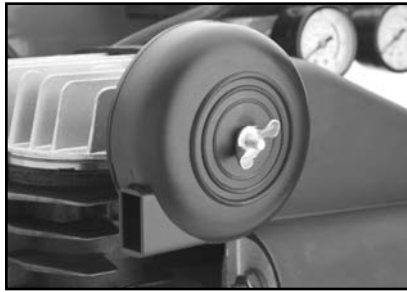

Figure 2. Air filter attached to cylinder head.
2. Be sure the air filter is attached to the cylinder head as shown in **Figure 2**.